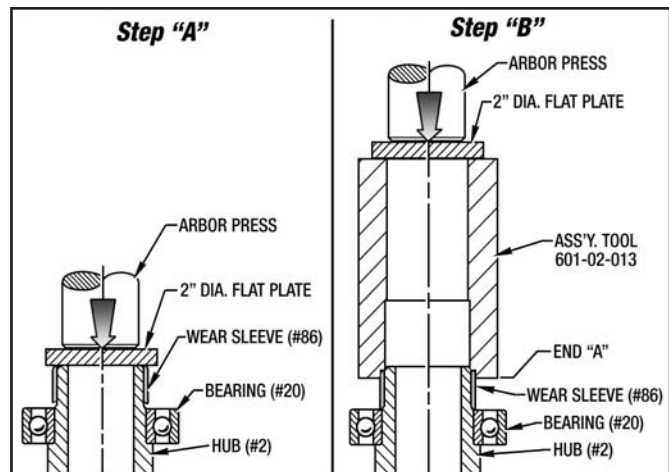

Figure 9.1 - Installing Front Wear Sleeve (#86)
5. Install the Front Wear Sleeve (#86) on to the Hub (#2) with the following procedure and as shown in *Figure 9.1*: